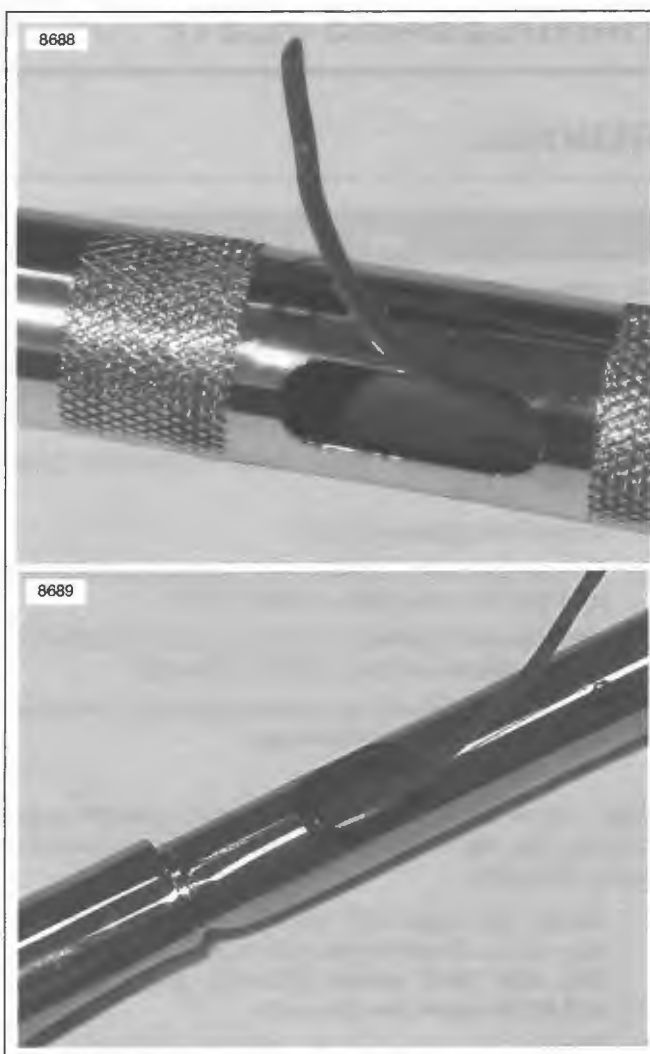

Figure 2-118. Wire Leader in Handlebars (handlebars removed from motorcycle)
3. See Figure 2-118. String wire along the wires. String sufficient wire to pull conduits through handlebars.